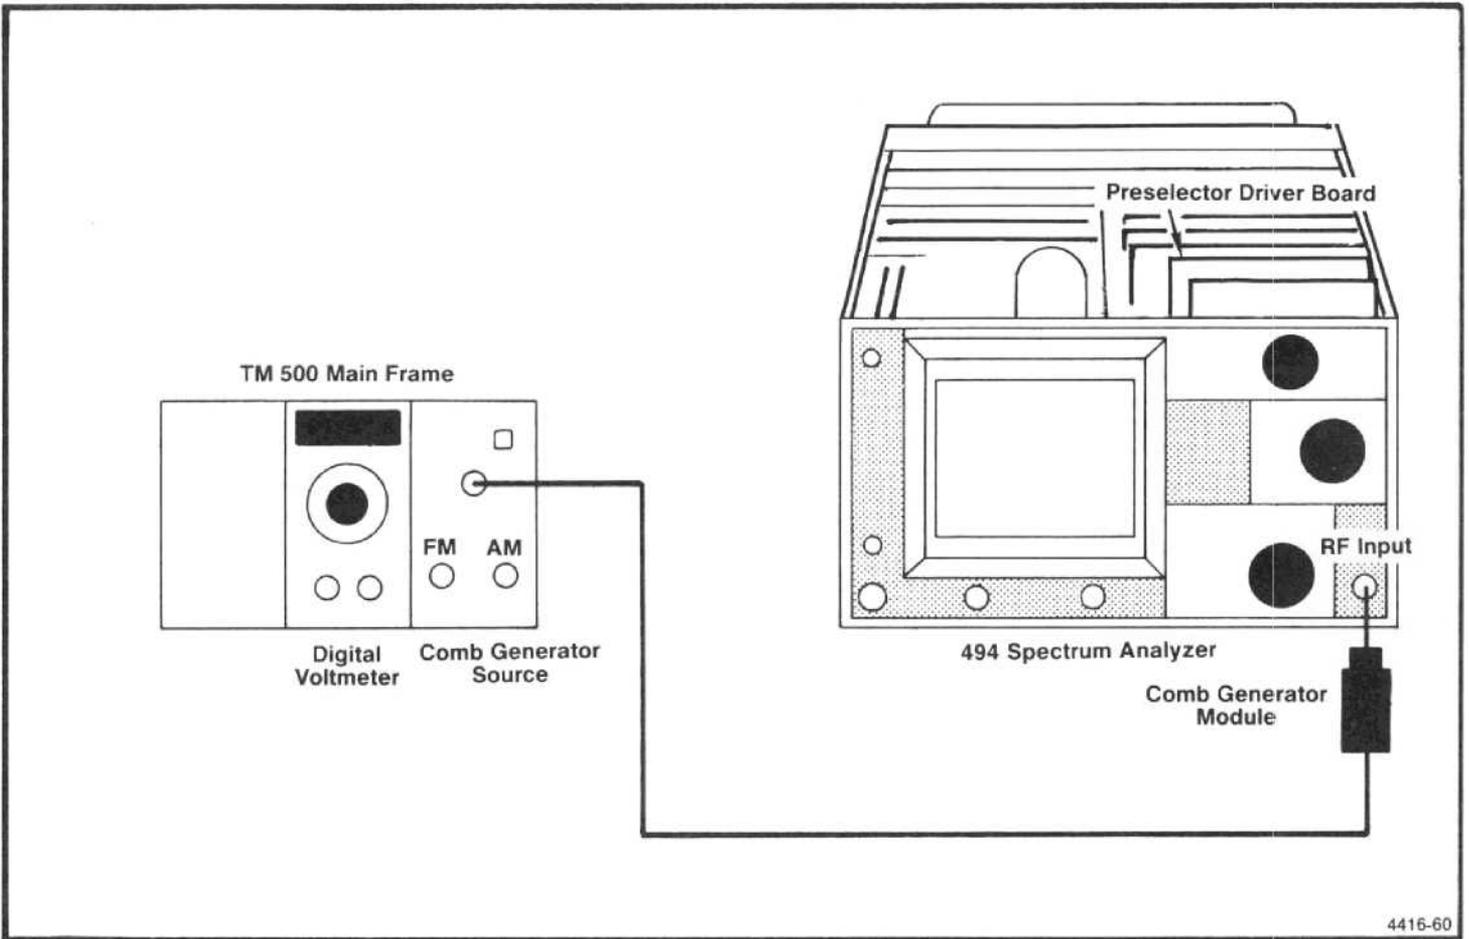

Figure 5-25. Test equipment setup for Preselector Driver adjustments.
a. Test equipment setup is shown in Figure 5-25.